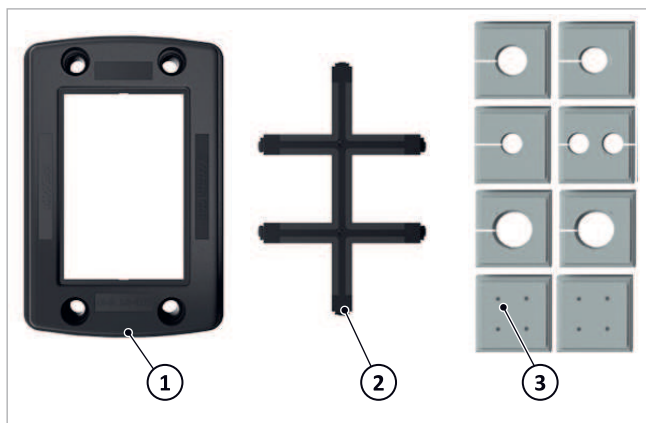

Fig. 71: Line lead-through system with oil line
3. Guide and connect the oil lines from the burner to the filter through the cutout section (1) in the base panel. If necessary, remove the inlay (see → fig. 71, page 29.) and insert it again.